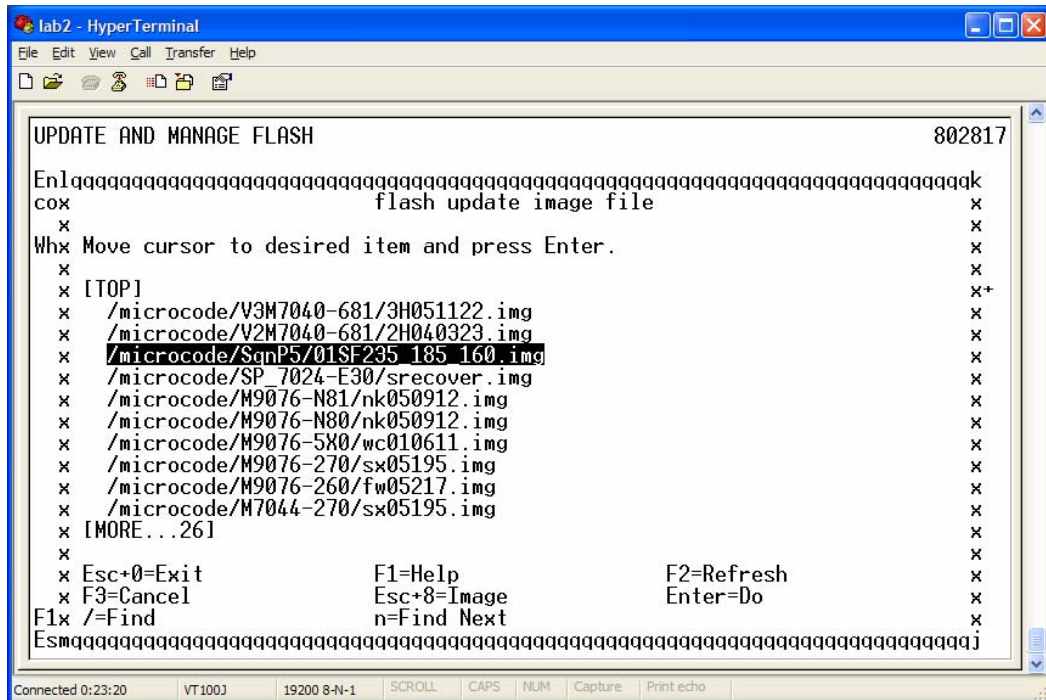

Figure 22. Highlighting the name of the flash file to use for the firmware update
14. Select the **...SqnP5/... img** file by moving the cursor to highlight the file name (see Figure 22). Then, press **Enter**.